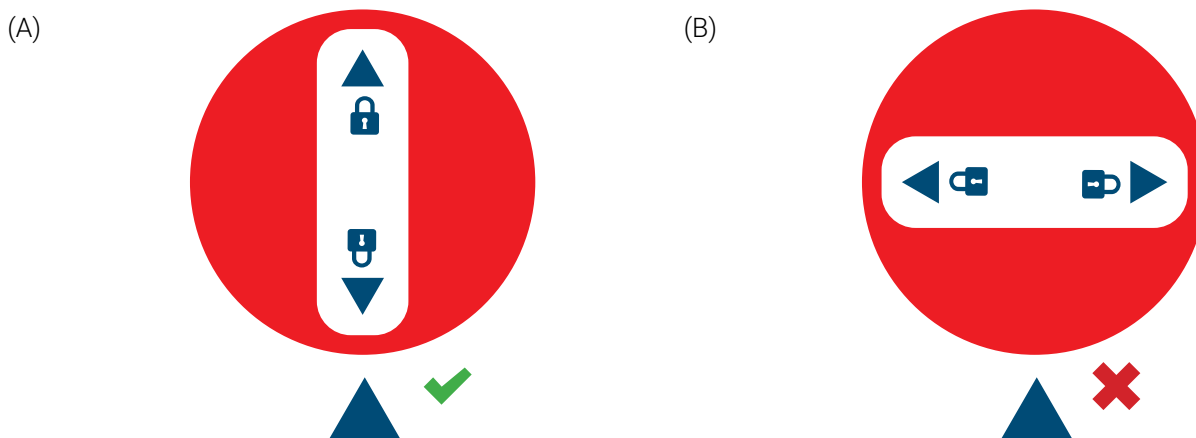

Figure 9: Locked and unlocked positions - Rotary locks
- Ensure that all four (4) stud fittings are inserted in the slots of the vertical tracks.
- Ensure that both (2X) rotary locks are aligned with the indicators ▲ in the locked position 🔒 (Figure 9 A). If the indicator is not aligned in the locked position (Figure 9 B), turn the rotary lock(s) clockwise or counterclockwise until it has reached the locked position.